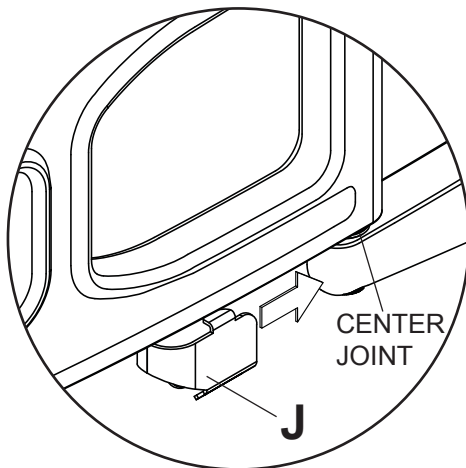

fig. 5.1
- 5 Cables may be routed using cable clip (J).
Slip cable clip (J) onto bottom of center joint as shown in figure 5.1 and secure cables to cable clip using cable tie (K) as shown in figure 5.2.